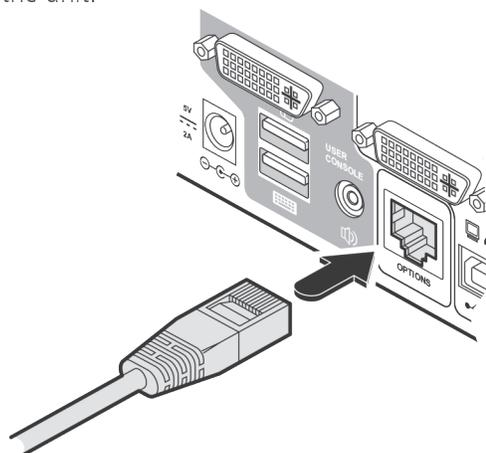

FIGURE 3-14. CONNECTING CABLE TO OPTIONS PORT
2. Connect the other end of the cable to the OPTIONS port on the rear panel of the unit. See Figure 3-14.